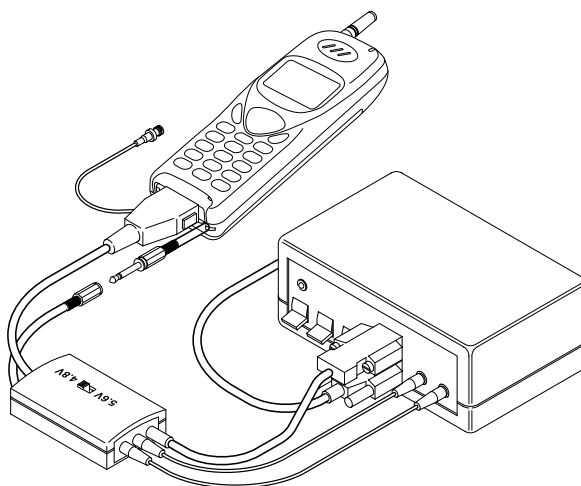

Figure 8: Interface Unit
1. Figure 8 Connect together the test equipment